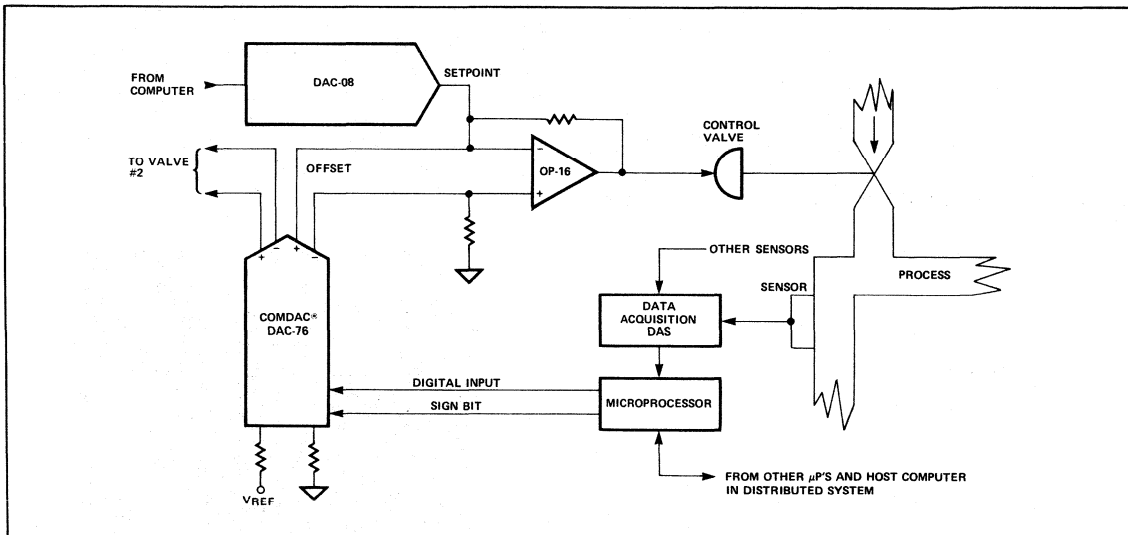

Figure 6. Programmable Controller in Distributed System
A programmable controller (PC) is shown in Figure 6. To complete a "control loop", the data acquisition system just described and the PC are required. Today's distributed systems need mini or microcomputers at remote stations to operate the control loop. The system described here uses two DAC's to position the valve opening. A linear DAC-08 makes the gross setpoint adjustment while the COMDAC® makes the fine adjustment to 0.025%.
The operation of this circuit (Figure 6) is straight forward. When the process changes, it is detected by the micro-